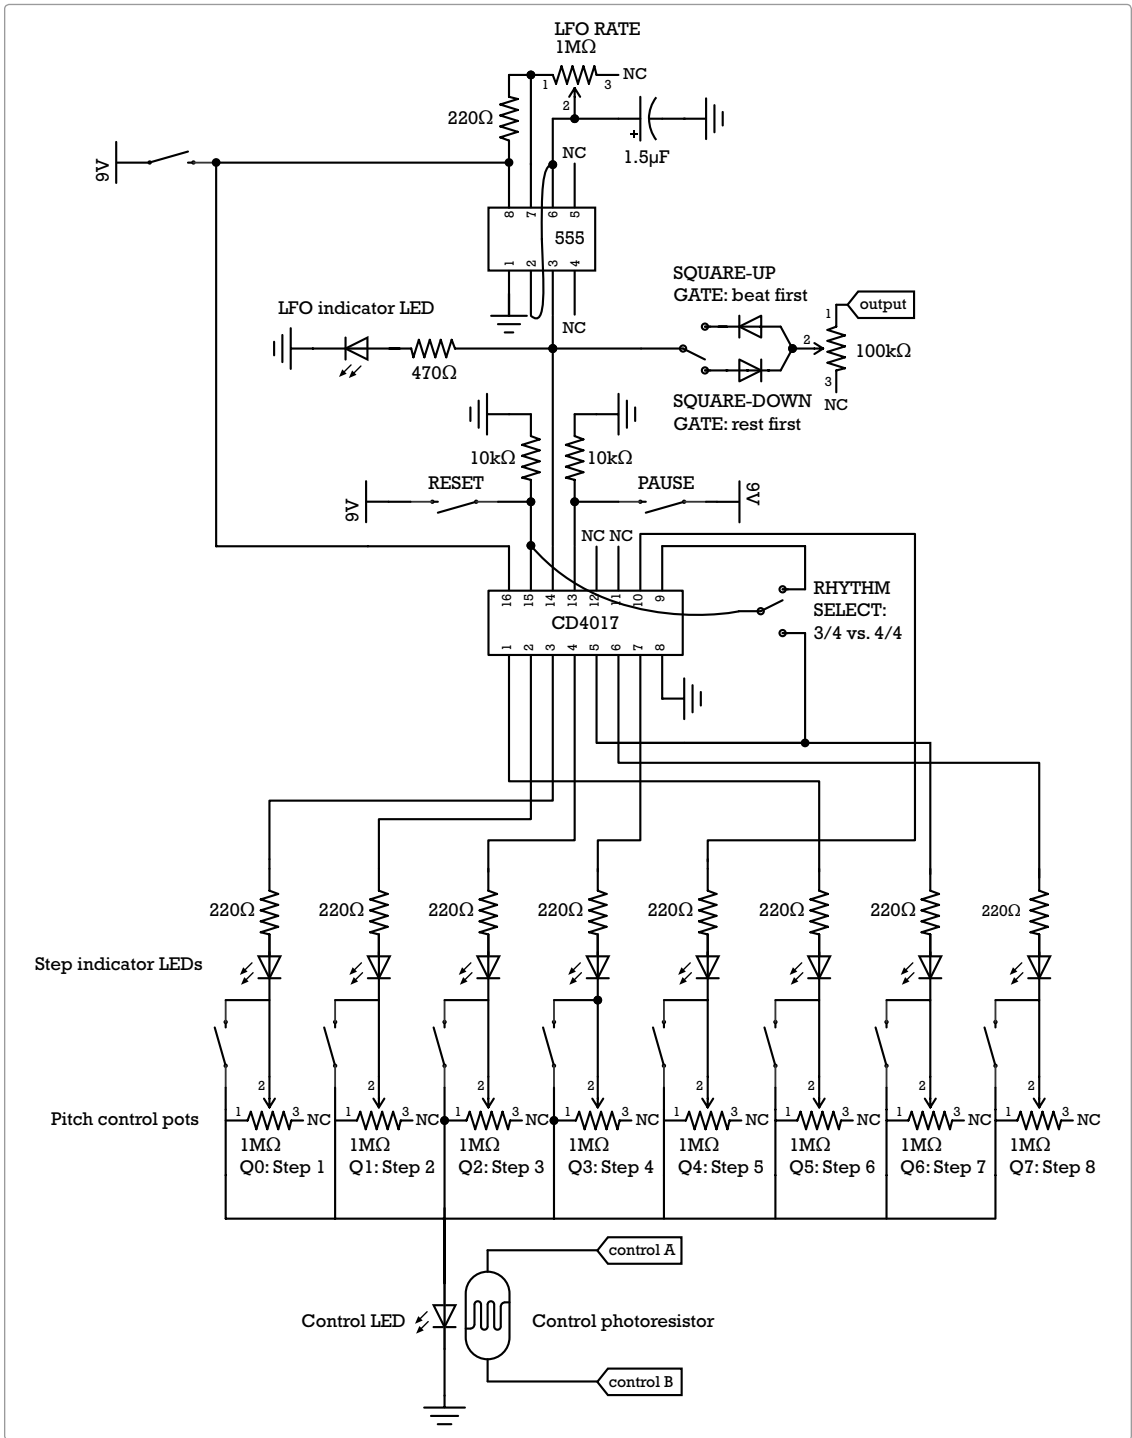
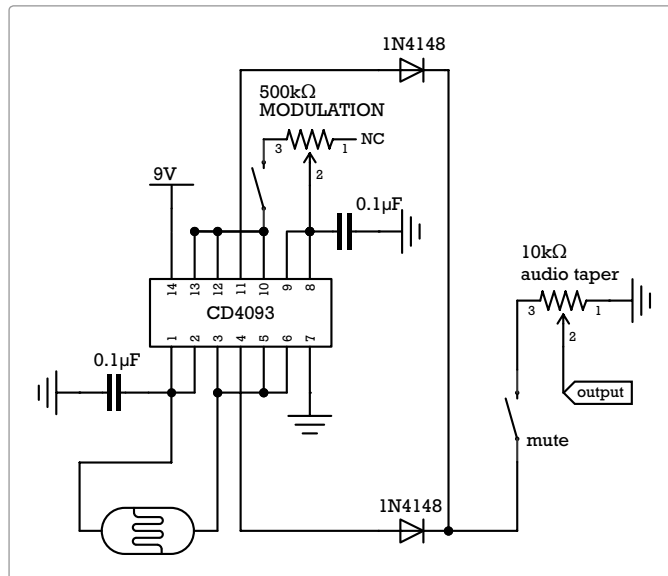

FIGURE 16-4: *The circuit diagram for the sequencer*
FIGURE 16-21: *The circuit diagram for the modified Single-Chip Space Invader Synth*
Take a look at the circuit diagram in Figure 16-4, which shows the sequencer portion of the Bleepbox circuit.
*** NOTE:** For clarity, Figure 16-4 doesn't show the schematic for the modified Space Invader Synth. This schematic is in Figure 16-21, and we'll give it a look when we're ready to build the synth itself.
² In Figure 16-4, I've labeled only the outputs we're using. If you're curious about which pin is which for all 10 outputs, google *CD4017 pinout* and look at the image search results.
Right now you've got a sequencer that doesn't control anything other than a row of blinking lights. That's kinda fun, but something that controls a row of blinking lights *and* makes a rad noise will be much, much more fun. A modified version of the Single-Chip Space Invader Synth (Project 15) will be the Bleepbox's voice. Let's build this now, using the modified parts list from the beginning of this project, the circuit diagram shown in Figure 16-21, and the instructions that follow.